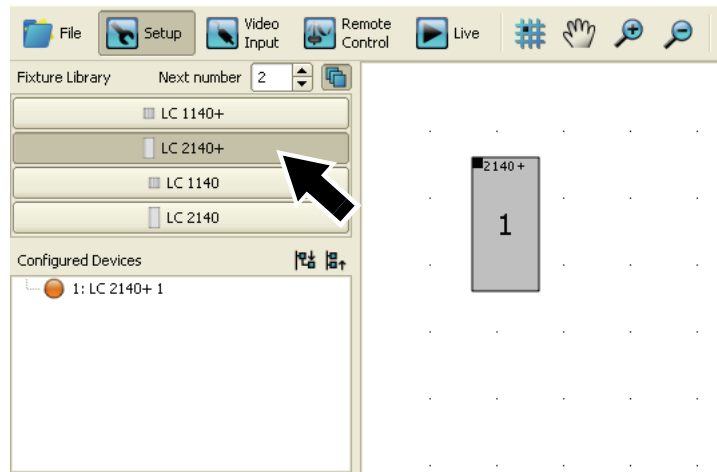

Figure 8: Fixture Library
3. See Figure 8. Click on the panel type in the **Fixture Library** (arrowed) that corresponds to the panel you want to place in position number 1 in the installation.
5. See Figure 8. The panel will be placed on the video frame in your on-screen installation labelled with display address 1 in the center of the panel icon. The panel will also appear with an orange ‘bullet-point’ in the **Configured Devices** list. The number in the **Next number** box will jump to 2, ready for the next panel.